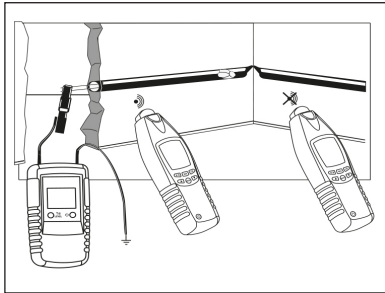

**Figure 7:**
- A second transmitter is required for this application. (Figure 7)